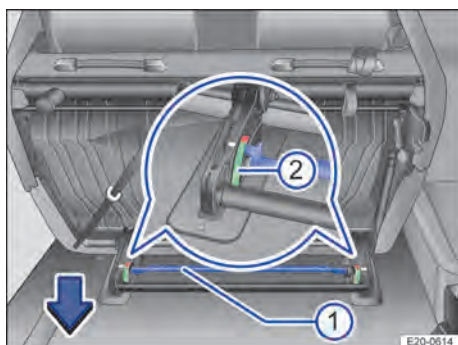

Fig. 70 Second row of seats: Installing the two-seat bench.
2. Press the rods → Fig. 70 ① downwards in the direction of the arrow until both locking marks ② are in the green area.